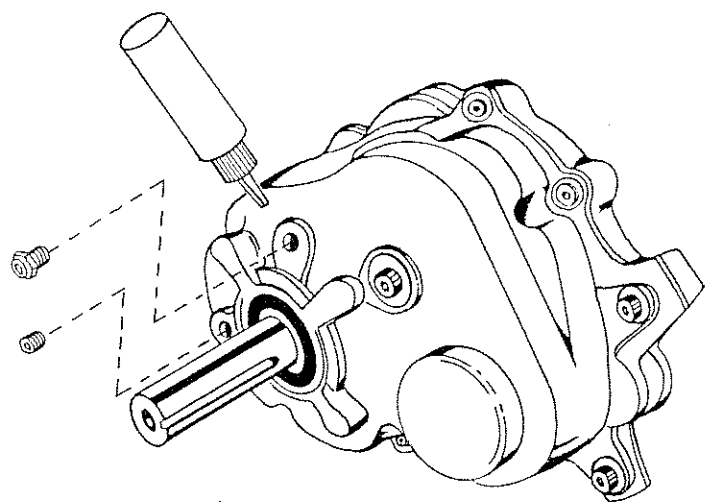

Figure 8.
6) Place teflon tape on the threads of the vent and pipe plugs. Install the pipe plug into the lower hole of the gearbox and tighten. Pour the two 4 oz. bottles of oil into the upper hole. Install the vented plug into the upper hole and tighten. (Figure 8).